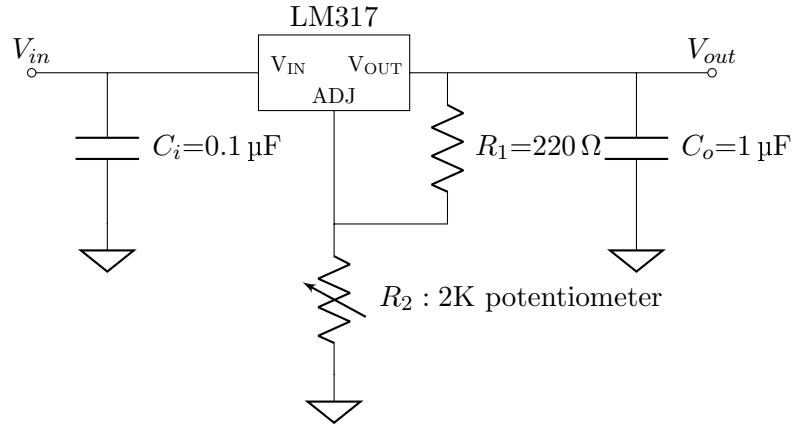
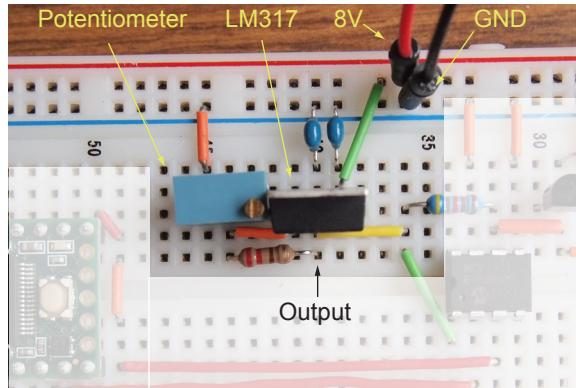

Figure 7: Schematic of the voltage regulator circuit using LM317.
Figure 8: An example breadboard layout of the circuit in Fig. 7.
1. Using Fig. 7 as a reference, build the regulator circuit on the breadboard. You should be able to find the LM317 pinout diagram from its datasheet, which you find from online. *As a general suggestion, it is important to keep your circuit well laid out and keep the connecting wires as short as possible. Cut the wires to the right length if necessary.* Fig. 8 shows an example breadboard layout for the LM317 regulator circuit in this lab.